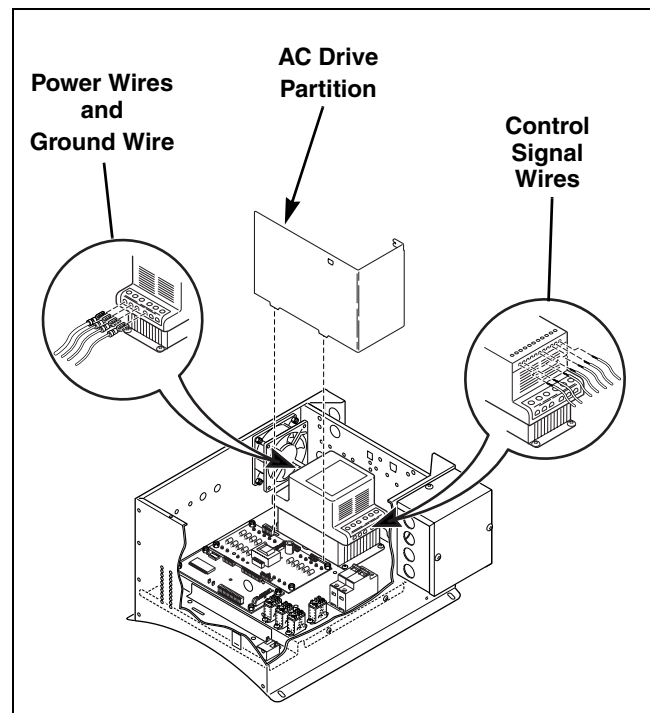

Figure 12
- c. Loosen the screw that attaches the AC drive partition to the control module. Remove the AC drive partition. Refer to *Figure 12*.
- d. Mark the control signal wires (the wires going into the right side [facing the front of the machine] of the AC drive). Loosen the screws that connect the control signal wires to the AC drive. Remove the control signal wires from the AC drive. Refer to *Figure 12*.
- e. Mark the power wires and the ground wire (the wires going into the left side [facing the front of the machine] of the AC drive). Loosen the screws that connect the power wires and the ground wire to the AC drive. Remove the power wires and the ground wire from the AC drive. Refer to *Figure 12*.